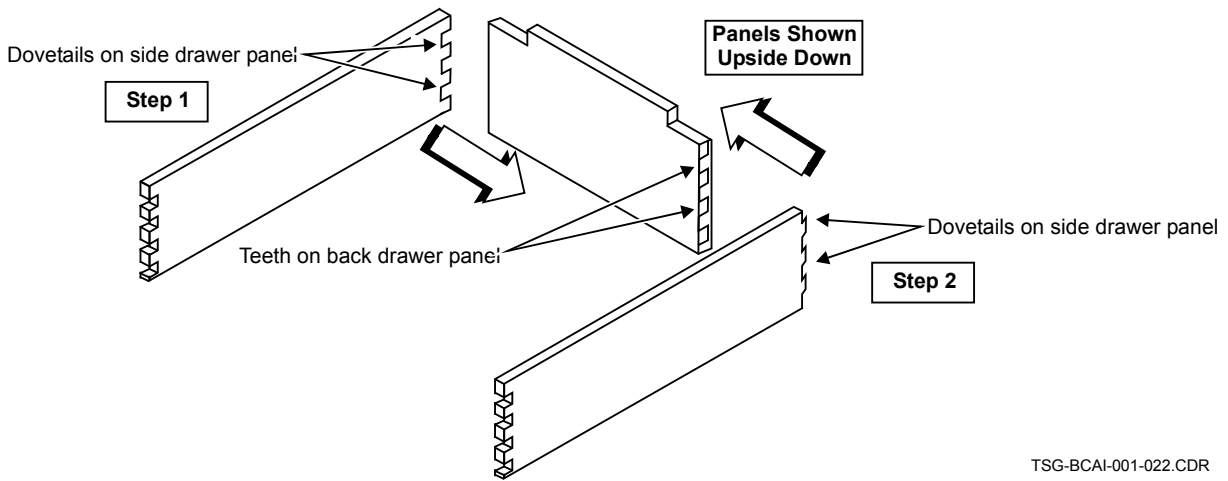

Figure 13 — Install the Two Side Drawer Panels into the Back Drawer Panel
- (1) Align the dovetails of one of the side drawer panels with the teeth on the back drawer panel and gently seat the side drawer panel into the back drawer panel. (See Figure 13.)
- (2) Repeat this procedure for the second side drawer panel. (See Figure 13.)